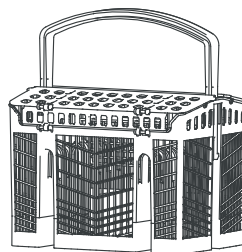

Fig.11
- Load the cutlery (forks, spoons, teaspoons) in a way the bent parts point the same direction (to achieve better washing results), (Fig.11).